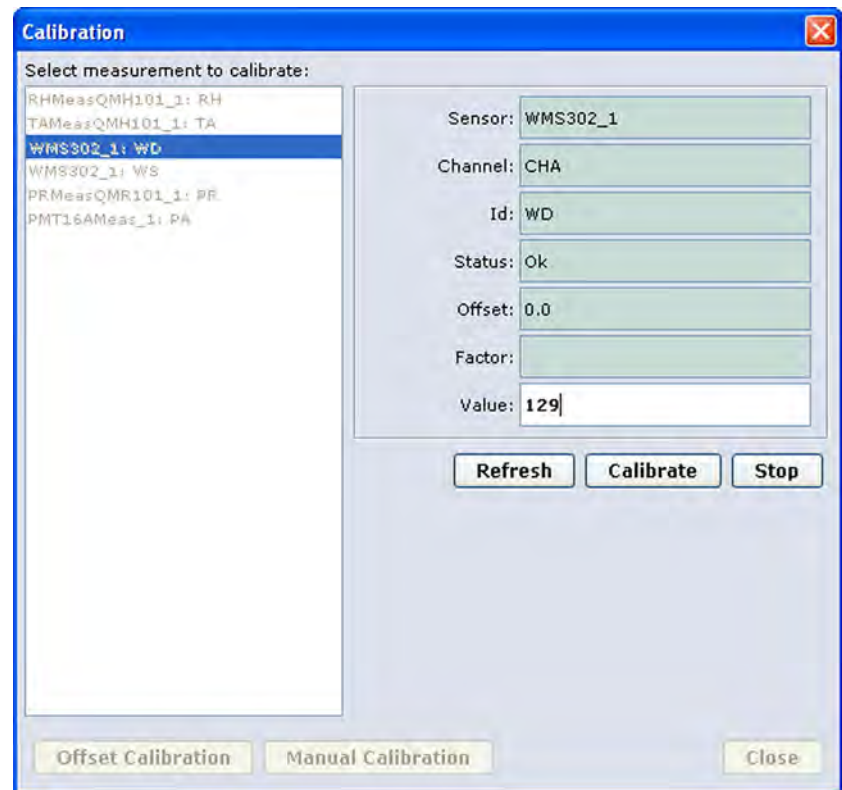
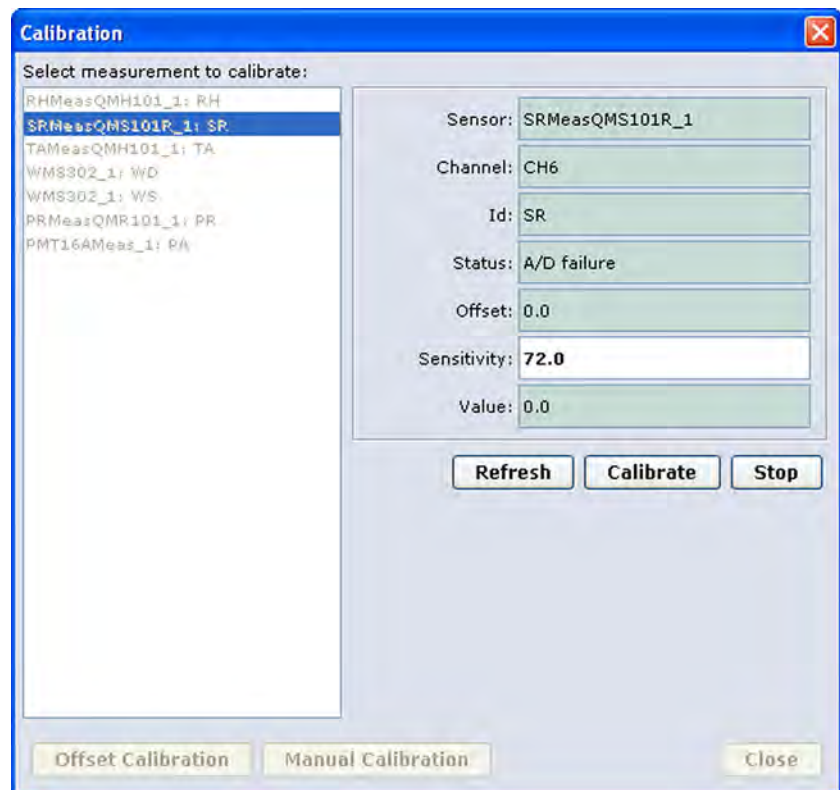

Figure 37 Offset Calibration Window
Figure 38 Manual Calibration Window
The windows for offset and manual calibration are shown in Figure 37 on page 73 and Figure 38 on page 75, respectively.
4. The **Offset Calibration** view shown in Figure 37 on page 73 is displayed with information on the measurement and its calibration. The **Value** field shows the latest measurement value obtained from the sensor.
Figure 37 on page 73 illustrates wind sensor calibration, a typical offset calibration situation: unless the weather station is properly aligned in a north–south direction during installation in the field, the wind sensor needs to be calibrated.
3. Select **Manual Calibration**. The **Manual Calibration** window shown in Figure 38 on page 75 is displayed with information on the measurement and its calibration. The **Offset** field shows the offset for the measurement. The **Factor** field shows the gain of the measurement; that is, the slope of the conversion curve.
Figure 38 on page 75 illustrates radiation calibration. Radiation sensors tend to have individual characteristics; therefore, they always need to be calibrated prior to operation.